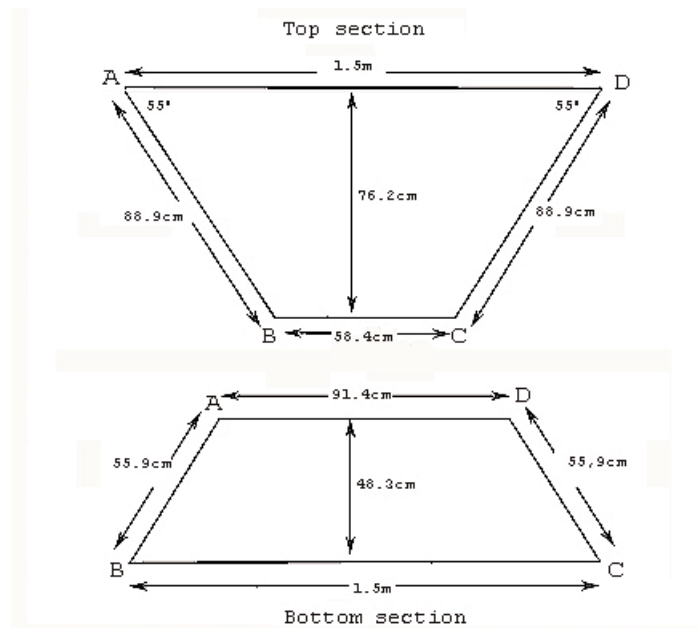

Figure 3
2. Cut a third section of insulation to fit under the top of the drum as shown in Figure 3. Dimensions are: 1.5m x 90cm x 58.5cm x 90cm (4 ft. 11 in. x 2 ft. 11 in. x 1 ft. 11 in. x 2 ft. 11 in.) Cut sides A-B and C-D on an angle as shown.
- Cut a fourth section of insulation to fit under the base of the drum as shown in Figure 3. Dimensions are: 55.9 cm x 1.5m x 55.9cm x 91.5 cm (1 ft. 10 in. x 4 ft. 11 in. x 1 ft. 10 in. x 3 ft) Again, cut sides A-B and C-D on an angle as shown.